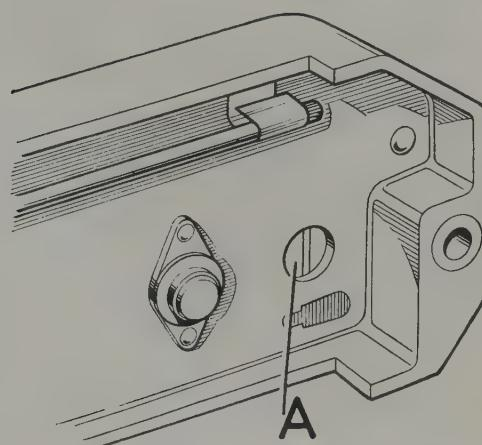

Fig.10.9. Adjuster screw (A) on 11 AC alternator control unit
- 6 Switch off the engine and remove the control unit securing screws. Invert the unit and scrape away the sealing plug which covers the potentiometer adjuster screw "A" (Fig.10.9).